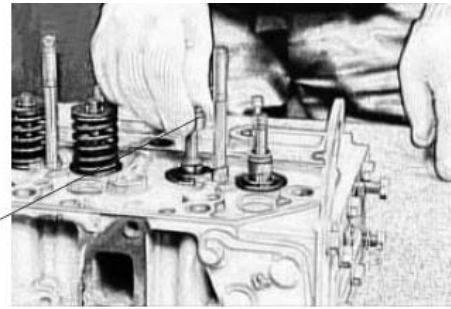

Fig 5-15 Valve Oil Seal
2.3 There are valve oil seals on valve stem which keep over oil into valve guide pipes. Make valve oil seals go into the correct position.(see Fig 5-15)